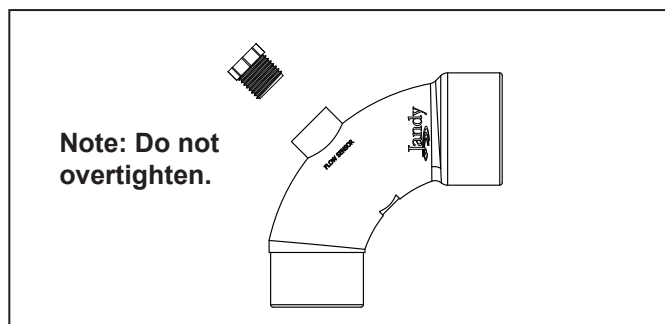

Figure 7. Sweep Elbow
- 5.1 The CV model filter comes with a Jandy Sweep Elbow for this purpose. The sweep elbow also includes a threaded port and plug so that a ½" hose bib can be connected for pressure testing. See Figure 7.